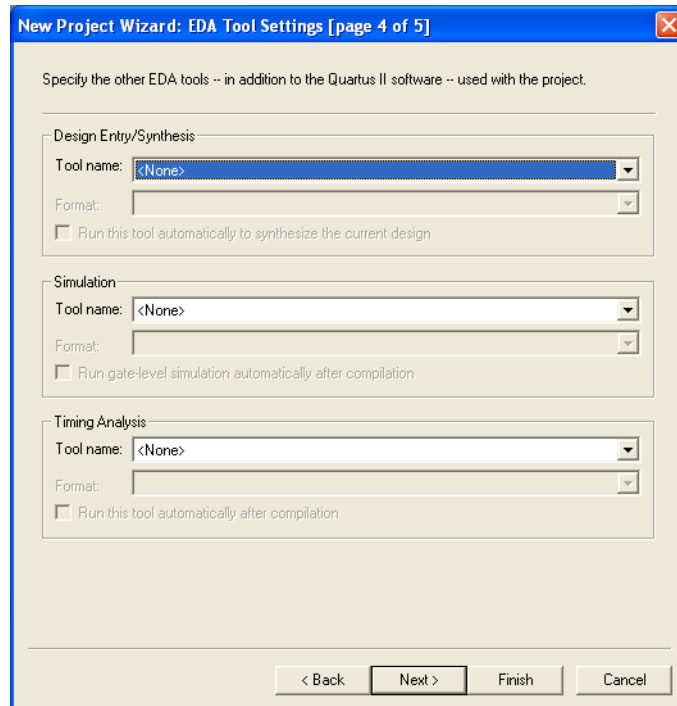

Figure 8. Other EDA tools can be specified.
4. We have to specify the type of device in which the designed circuit will be implemented. Choose Cyclone™ II as the target device family. We can let Quartus II software select a specific device in the family, or we can choose the device explicitly. We will take the latter approach. From the list of available devices, choose the device called EP2C20F484C7 which is the FPGA used on Altera's DE1 board. Press Next, which opens the window in Figure 8.